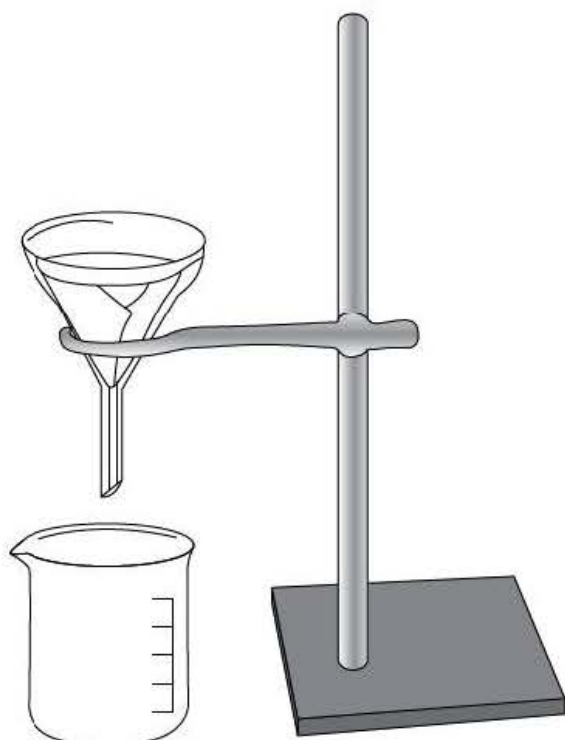

Figure 2
- 6 Set up the filter funnel and filter paper as shown in Figure 2 and filter the cooled solution from step 5 into a 400 cm³ beaker.